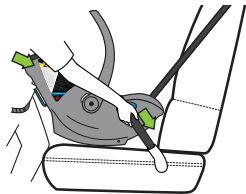

Figure 72
- Use your body to push and wiggle the Carrier into the vehicle seat back and pull down on the lap portion of inflatable vehicle belt to tighten as shown in **Figure 72**.